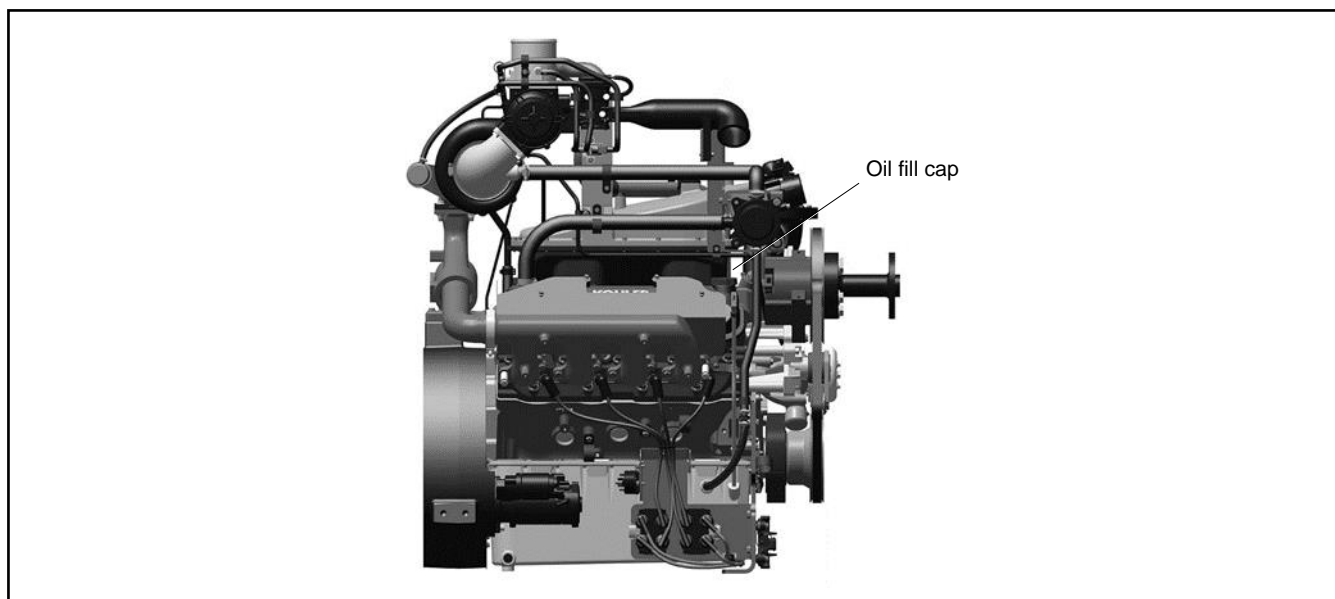

Figure 18 Oil Fill Cap
6. If the oil level is below the add mark, check for leaks. If no leaks are found, open the oil fill cap. Wipe the oil fill cap clean, and add oil up to the Full mark. See Figure 18.